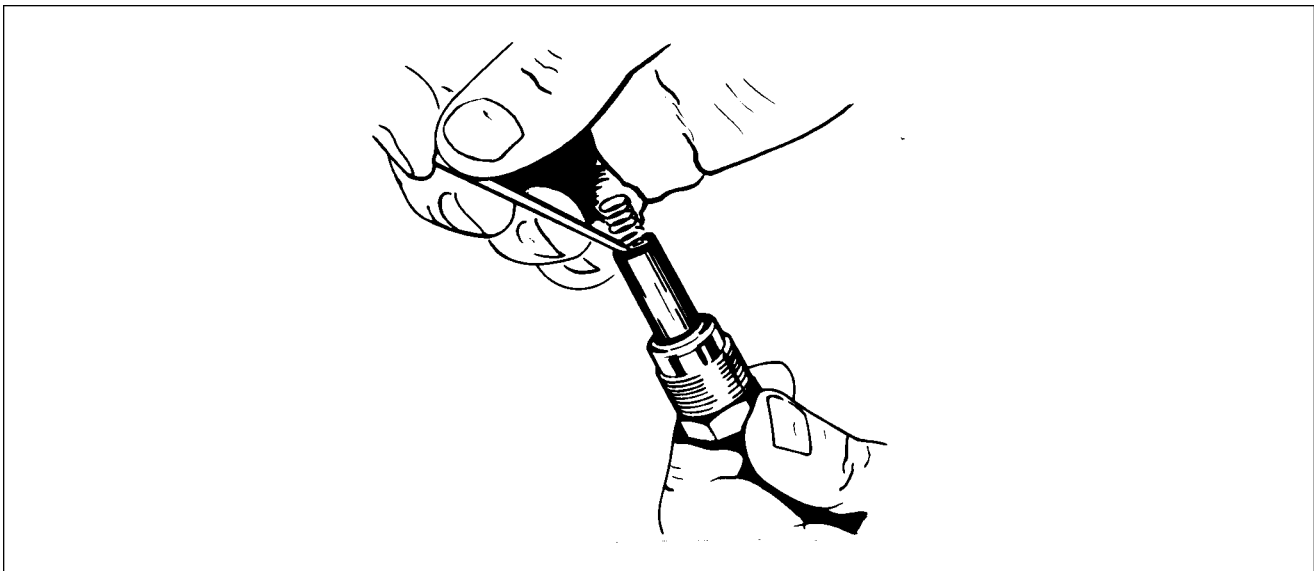

Figure 74-31. Removing Spring From Lead Assembly
- A. Using a Scintilla 11-7073 Needle or a mechanical pencil with the lead retracted, hook the end of the contact spring as shown in Figure 74-31.